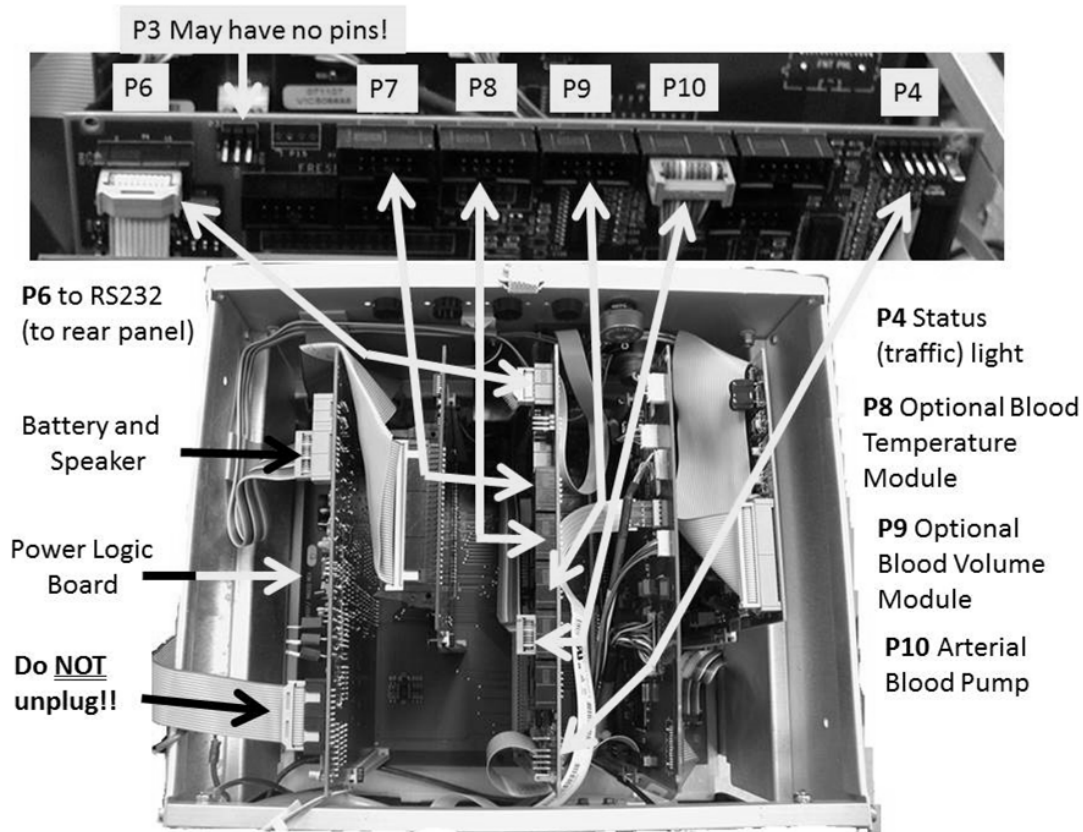

Figure 117 – Card Cage / Functional and Power Logic Board Devices
- b) Your choice, plug ONE of the device cables back in where it belongs. Refer to Figure 117 (previous page).
Yes Symptom reoccurs! The last device plugged in (or its cable) may be causing the problem OR the wrong device is plugged in the wrong connector. Refer to Figure 117 (previous page)!
- b) Plug the Functional board device cables back in EXACTLY* where they belong. *To LOCATE where they belong refer to Figure 117 (page 660).